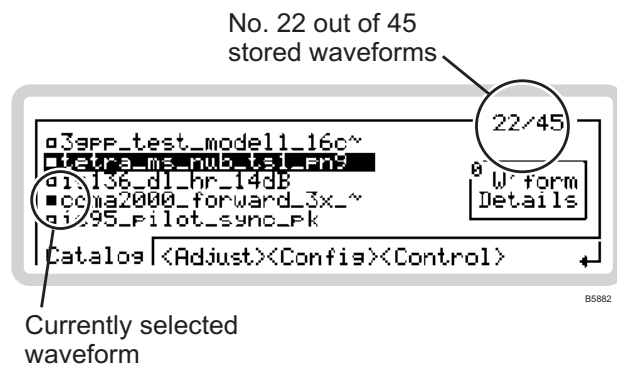
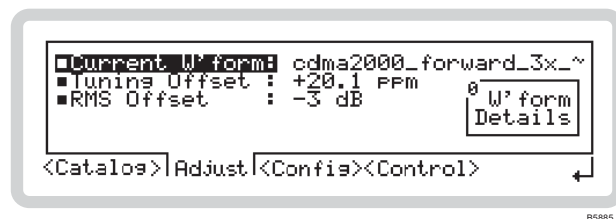
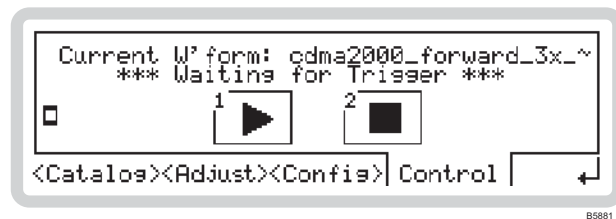

Fig. 3-29 ARB catalog
Fig. 3-30 ARB adjust
Fig. 3-32 ARB control
- 2 Press **SIG GEN** to show the main screen, and touch the **IQ** soft box to select the function. Touch **Wform** and press **✓** to view the ARB catalog menu (Fig. 3-29).
From the ARB catalog menu of Fig. 3-29, touch <Adjust> or press to display the ARB adjust screen (Fig. 3-30).
From the ARB catalog menu of Fig. 3-29, touch <Config> or press to display the ARB configuration screen (Fig. 3-31).
From the ARB catalog menu of Fig. 3-29, touch <Control> or press **<TAB>** to display the control screen (Fig. 3-32).